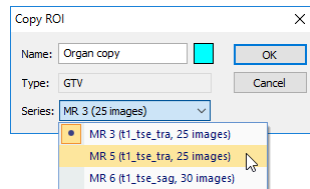

Figure 234 – Copy ROI dialog - selecting the target series
3. Select the target series from the **Series** drop-down menu (see Figure 234). It is only possible to select a target series that is registered with the source ROI series.